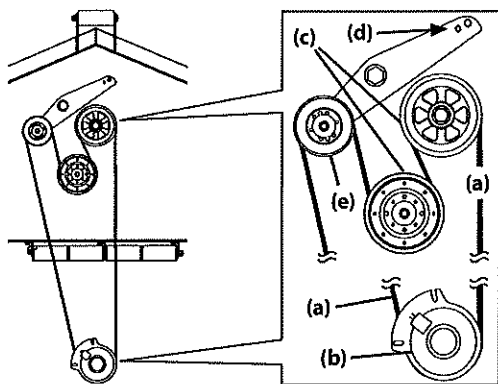

Figure 32
- Route the new PTO belt (a) around the PTO clutch (b) and PTO pulleys (c) as shown in Figure 32.